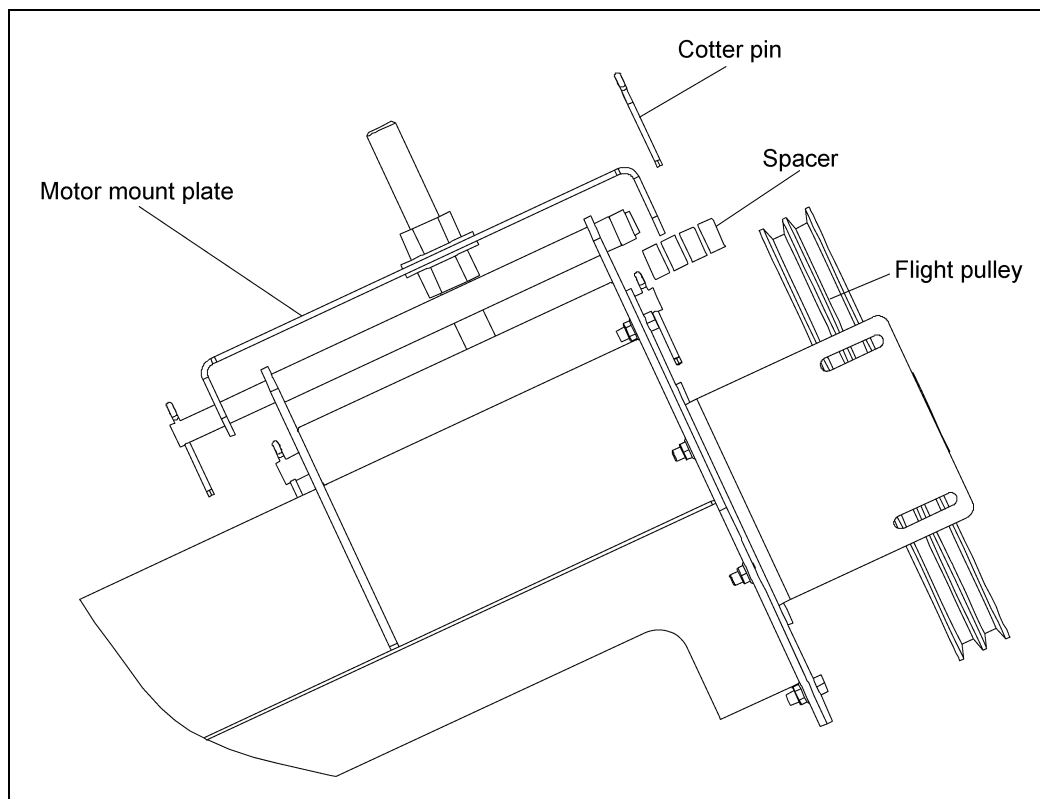

Figure 4J
- Install pulley onto motor shaft making sure that it is aligned with the flight pulley. It may be necessary to move spacers to gain shaft alignment. *(See Figure 4J.)*